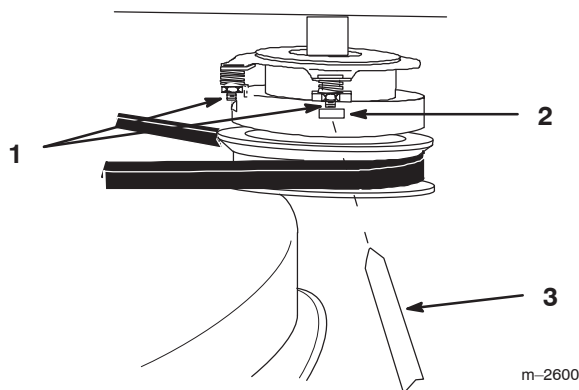

Figure 43
2. Check the adjustment by inserting a feeler gauge through slots next to each of the studs (Fig. 43) to ensure that the plates are parallel.
3. To adjust the clutch, tighten or loosen the locknuts on the flange studs as necessary (Fig. 43).